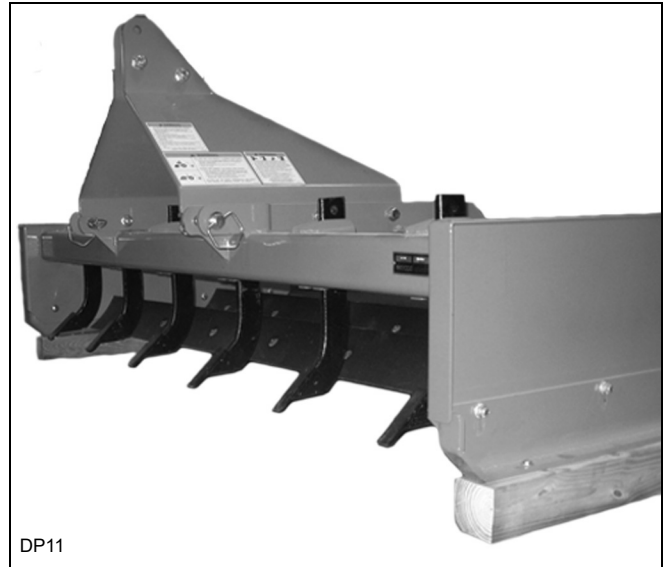

Figure 5. Grading Scraper Blocked Up
1. Place two 6" x 6" blocks under each side frame of scraper as shown in Figure 5.
1. Block up machine by placing two 6" x 6" (15.24 x 15.24 cm) blocks under each side-frame of scraper (see Figure 5).
1. Place two 6" x 6" (15.24 x 15.24 cm) blocks under each side-frame of scraper (see Figure 5).
3. Refer to parts drawing, page 16. Remove the lock nuts (18) and plow bolts (17) from scraper. Turn cutting edge over and use new edge, or replace it if both edges have been used.